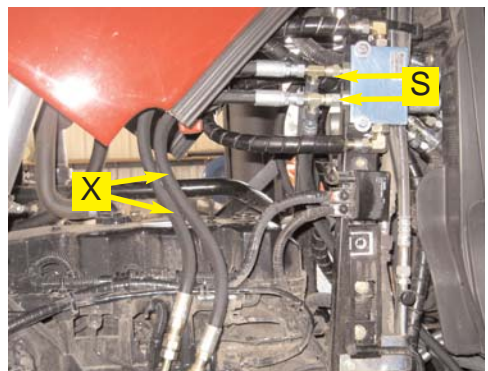

Figure 8c. Installed steering hoses at automated steering block.
- b. Connect the hydraulic steering hoses (X) from the end of the run tee fitting (S) on the counter balance valve to the original steel steering lines. (Figure 8c.)